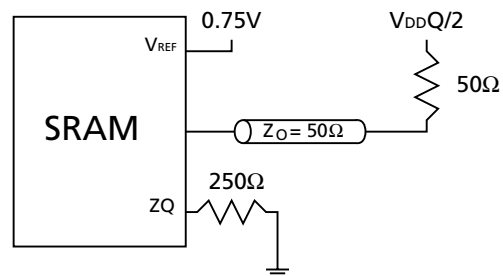

Figure 1
4. Test conditions as specified with the output loading as shown in Figure 1 unless otherwise noted.
Output load	See Figure 1